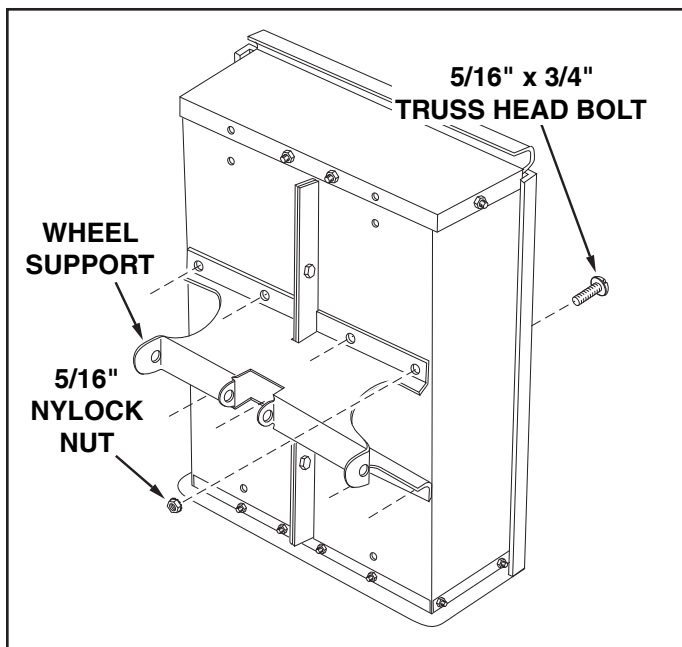

FIGURE 6
- Assemble the wheel support to the cart using eight 5/16" x 3/4" truss head bolts and 5/16" nylock nuts as shown in figure 6. Heads of bolts go to the inside of cart bed. **Tighten**.